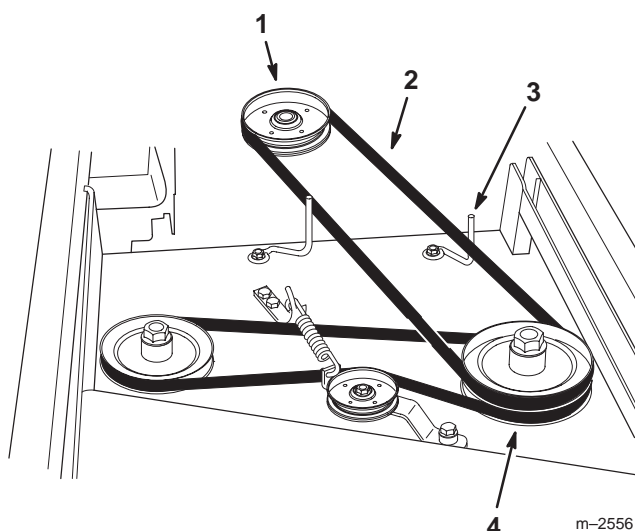

Figure 6
2. Install the drive belt around the drive pulley on the traction unit and the upper groove of the left spindle pulley. The belt must be between the belt guides (Fig. 6).